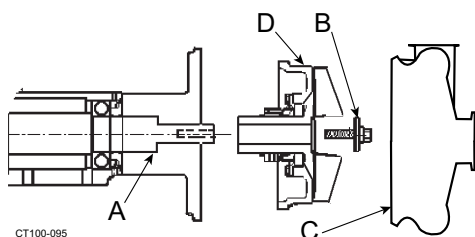

Figure 44 - Removing the Impeller Assembly
4. Remove the casing clamp and casing (Figure 44, item C). Slide the O-ring off of the backplate
5. Remove the impeller retainer bolt and shaft O-ring (Figure 44, item B).
6. Pull the impeller/backplate assembly off the bearing housing shaft (Figure 44, items D and A).